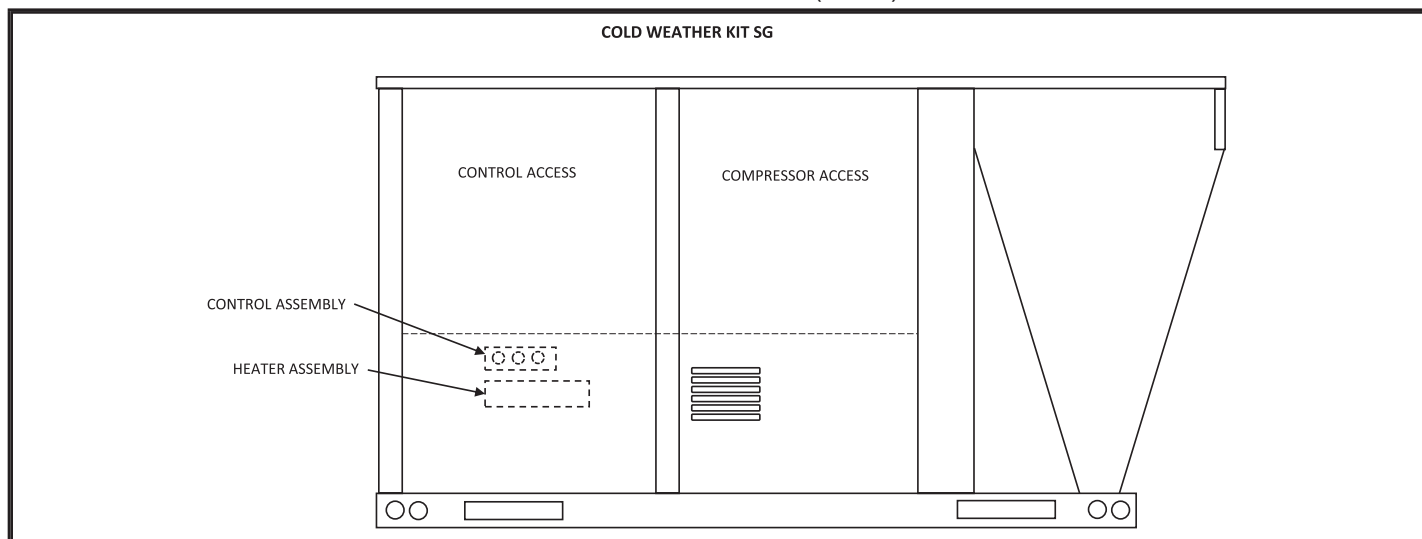

FIGURE 24
- 1 - Disconnect all power to unit and open control access panel, see FIGURE 24.